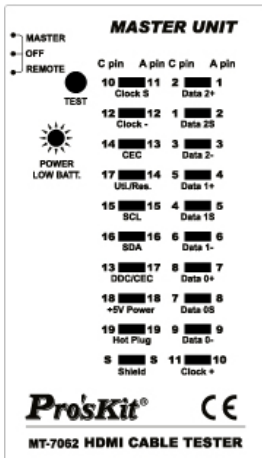

Fig 2. Straight
- **Straight** : With a long "beep" sound: Meaning 1~19pin and S pin all straight connected. (Fig 2.)